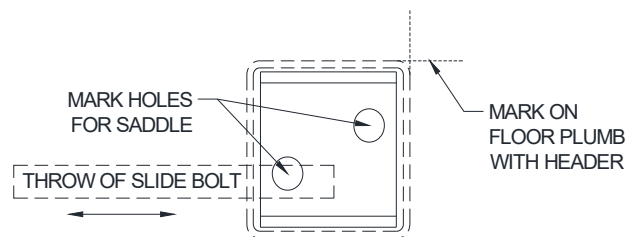

Figure 5.7 – Tube Saddle Hole Location
Note: If bottom bar locking is provided, be sure to orient the saddles as not to interfere with the throw of the slide bolt. See **Figure 5.7**.
5. Use the mark placed on the floor in the previous steps, to locate where the saddle will be and mark the hole locations by placing the saddle on the floor. See **Figure 5.7**.